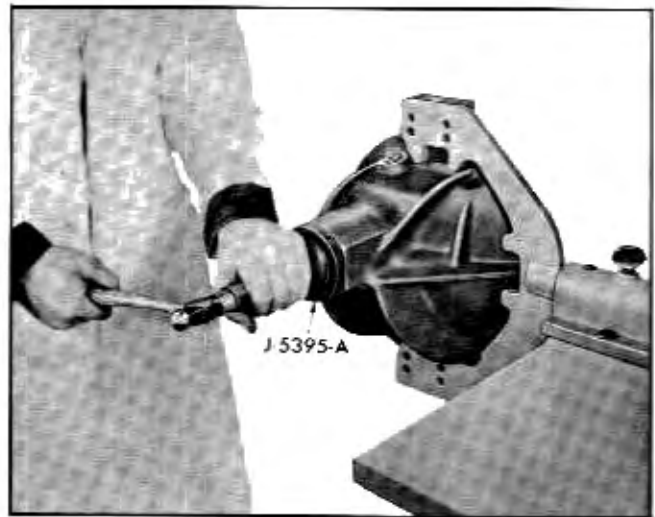

Fig. 4-35 Installing Pinion Oil Seal
23. Inspect pinion oil seal for damage. If seal retainer does not appear bent and lip of seal is not damaged, seal may be reused. Coat outside surface of seal retainer with Permatex No. 3 or similar compound. Install seal by tapping into place using tool J-5395-A against face of seal (Fig. 4-35). **NOTE:** Placing carrier so pinion is horizontal will reduce possibility of pinion falling out when seal is being tapped into place.